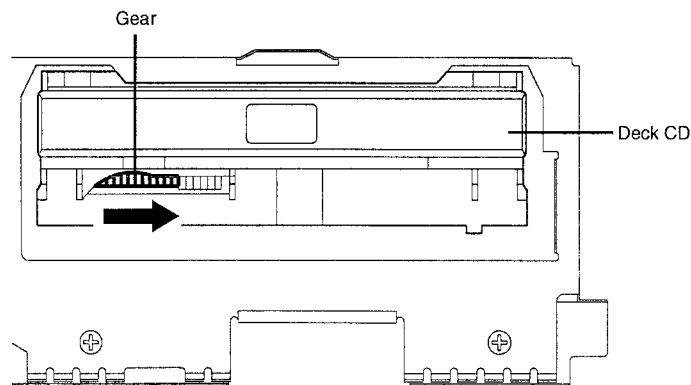

Fig. 3
1. Remove the Top Cabinet and Front Cabinet. (Refer to item 1 of the **DISASSEMBLY INSTRUCTIONS.**)
2. Rotate the gear of Deck CD section in the direction of the arrow by hand, remove the disc from Deck CD. (Refer to Fig. 3)